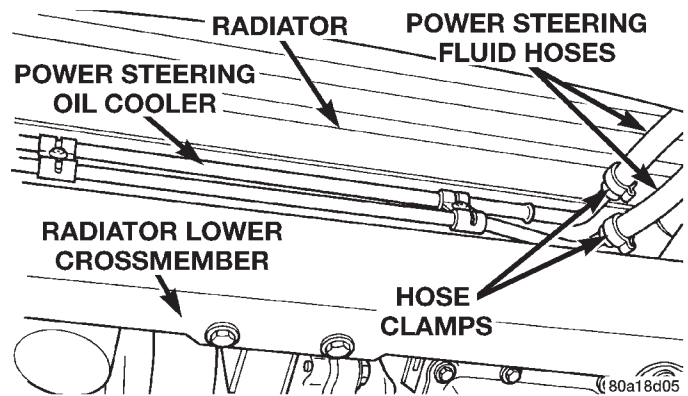

Fig. 43 Hose Clamps At Power Steering Fluid Cooler
- (1) Raise vehicle using a frame contact type hoist or supported as required using jack stands. See Hoisting in the Lubrication And Maintenance group of this service manual for the required hoisting or jacking procedure to be used for this vehicle.
- (2) Remove the hose clamps (Fig. 43) from the power steering fluid hoses. Drain power steering fluid from the hoses and the power steering fluid cooler.
- (4) Remove the power steering fluid cooler and mounting brackets as an assembly (Fig. 43) from the radiator lower crossmember. It is removed by rolling the bottom of the power steering fluid cooler and mounting brackets upward removing the tabs on the brackets from the radiator lower crossmember
(3) Install the hose clamps on the power steering fluid hoses.
(4) Install power steering fluid hoses on the power steering fluid cooler. (Fig. 43). **Be sure hose clamps are installed on hose past the upset bead on the power steering oil cooler.**
(5) Using Crimper, Hose Clamp, Special Tool C-4124 properly crimp the clamps on the power steering fluid hoses at the power steering oil cooler.
(6) Lower the vehicle to a point where front tires are just off the ground.
(7) Start the engine and let run for a few seconds. Then turn the engine off.
(8) Add fluid if necessary. Repeat the above procedure until the fluid level remains constant after running the engine.
(9) Start the engine. Slowly turn the steering wheel right and left, lightly contacting the wheel stops.
(10) Add power steering fluid if necessary.
(11) Stop the engine. Check the fluid level and refill as required.
(12) If the fluid is extremely foamy, allow the vehicle to stand a few minutes and repeat the above procedure.